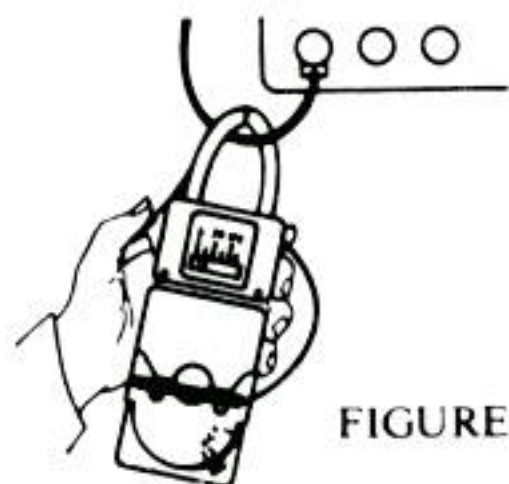

FIGURE 2
6. Press the handle on the side of the adapter to open the jaws. Place the jaws around ONE conductor and release the handle (See Figure 2).
7. Press the handle on the side of the adapter to open the jaws. Place the jaws around ONE conductor and release the handle (See Figure 2).